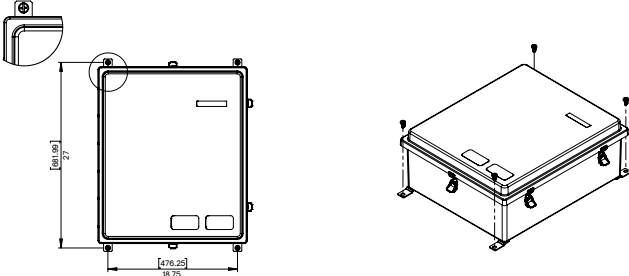

Figure 2: Filter wall mounting positions
- 3 Fix all four wall mounting brackets on the enclosure and apply the appropriate torque (Figure 2).